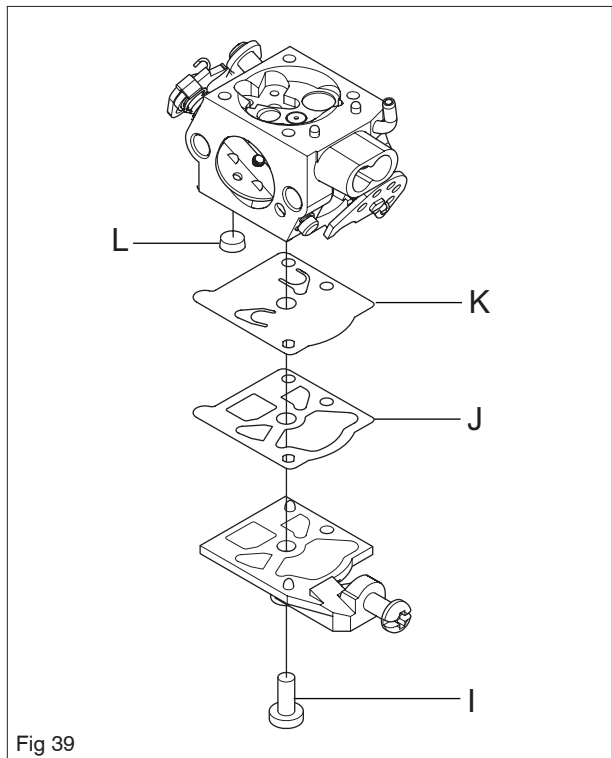

Fig 39
5. That the fuel screen (L) is intact and clean. See figure 39.
2. Fit the fuel screen (L) using the handle of a small screwdriver. See figure 39.
3. Fit the gasket (K), diaphragm (J) in the carburettor as well as the cover. Screw in place screw (I) as outlined in figure 39.